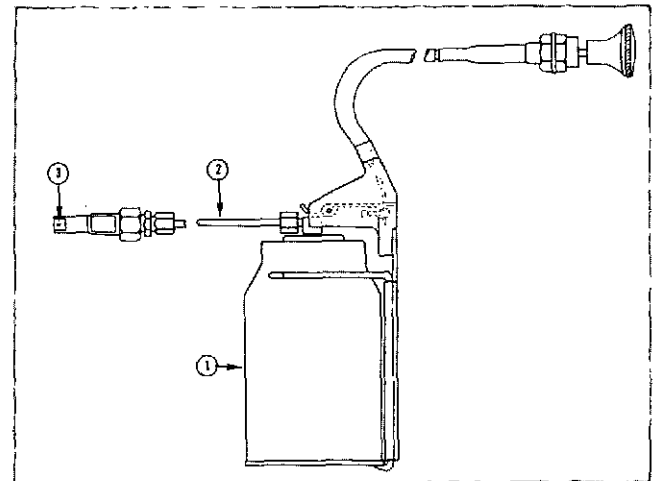

Fig. 1-5 (V11469) Starting fluid spray applicator
Spray nozzle assembly consists of a control knob operated by a flexible cable and cable housing attached to container, bracket mounted on unit (1, Fig. 1-5). Pulling knob, in cab, releases spray through a small plastic hose (2) into spray nozzle (3) located in intake crossover connection or air intake manifold. Small orifice holes in spray nozzle must be positioned to allow fluid to spray into both left bank and right bank intake manifolds of V type engines. Do not hold knob any longer than 2 seconds at any one time.